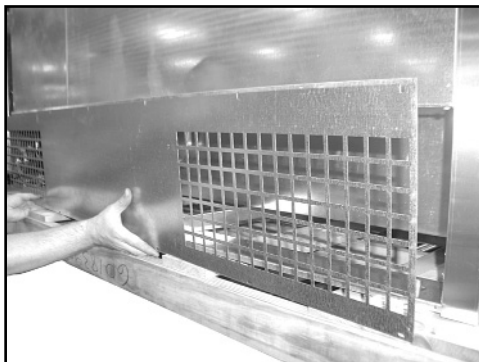
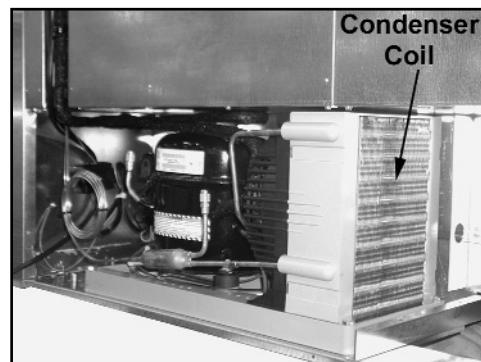

Figure 1
Figure 2
4. For condensing unit access, remove all 1/4" hex head screws off rear grill and pull grill straight out. (See **Fig. 1** & **Fig. 2**)